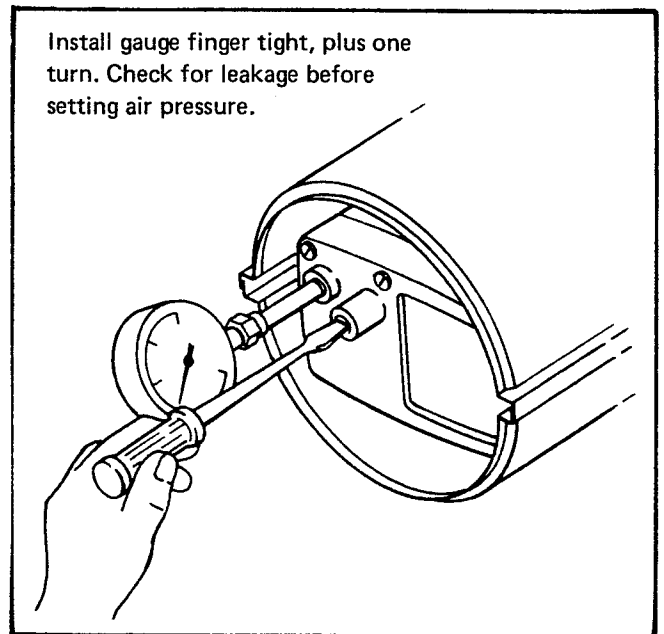

Figure P-11, Checking and adjustment of Air Pump Pressure
1. Remove the plug from the air filter housing, and install the pressure gauge into the hole. See Figure P-11.